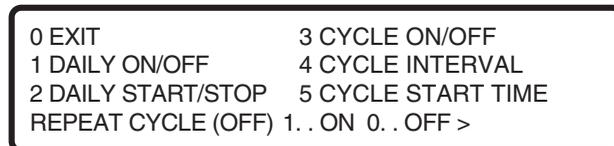

Figure 5.65
*NOTE: Figure 5.65 is requesting you to turn the CYCLE repeat feature on/off. The feature is currently off as indicated in parentheses. To turn it on, select the number "1" and to turn off select "0". Option "3" must be on if this feature is to work. Turning this feature on will also display the *RESTART* message on the screen indicating that the machine can restart at any time. However, this does not automatically cause the power/pressure restart to be active. If you desire the power/pressure restart be active also, it must be turned on manually by pressing OPTIONS, "8" for AUTORESTART and "1" for ON.*